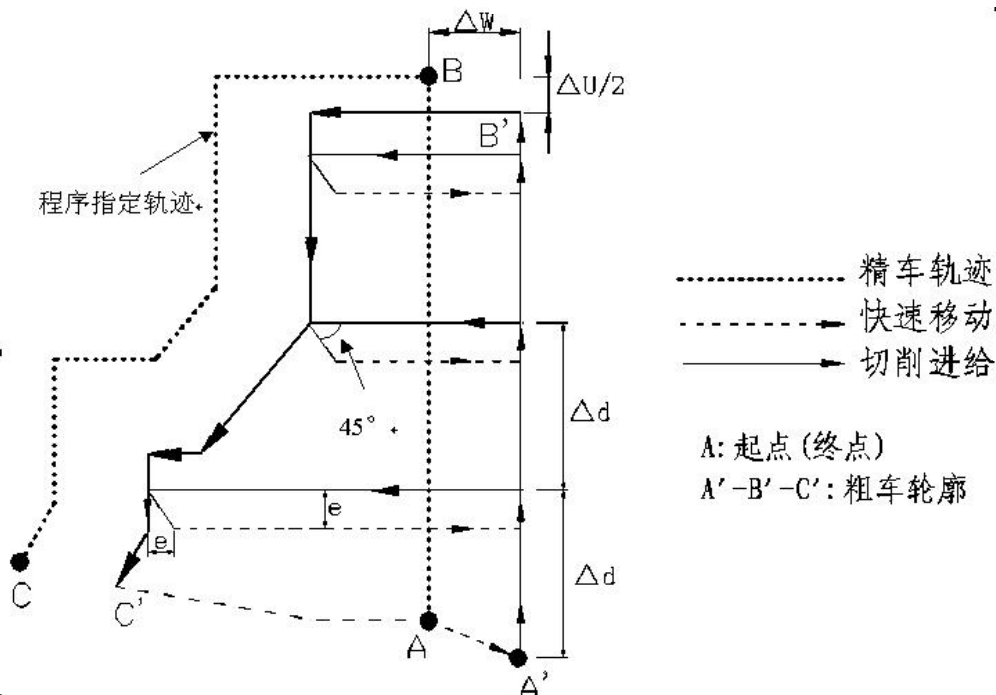

Figure 3-20 G71 Instruction Cycle Trajectory
Finish turning trajectory: the workpiece finishing trajectory given by part (3) of the instruction (ns ~ nf program segment), the starting point of the finishing trajectory (I.e. the starting point of ns program segment) is the same as the starting point and ending point of G71, referred to as point a; The first segment (ns segment) of the finishing track can only be the rapid movement or cutting feed of the X axis, and the end point of ns segment is simply referred to as point B; the end point of the finishing trajectory (the end point of the nf program segment) is referred to as point C. The track of the finish car is point A → point B → point C. (see Figure 3-20)
The paragraph is valid. Instruction execution process: Figure 3-20.